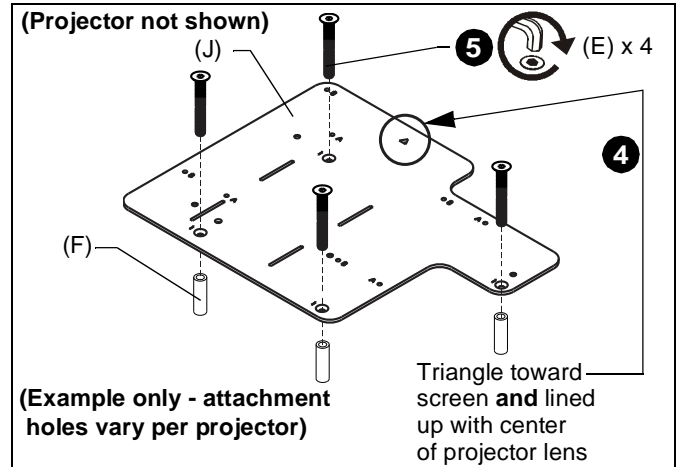

Figure 9
3. Place four spacers (F) over the threaded inserts in the bottom of the projector.
4. Place the interface bracket (J) [with "A" and "B" markings visible] onto the bottom of the projector, aligning the mounting holes (marked as "1") in the bracket with the spacers and threaded inserts in the bottom of the projector, and ensuring that triangle in bracket points towards screen, and lines up with center of the projector lens. (See Figure 9)
5. Place four M4x35mm flat head screws (E) into the mounting holes marked as "1", through the spacers (F) and into the threaded inserts. (See Figure 9)